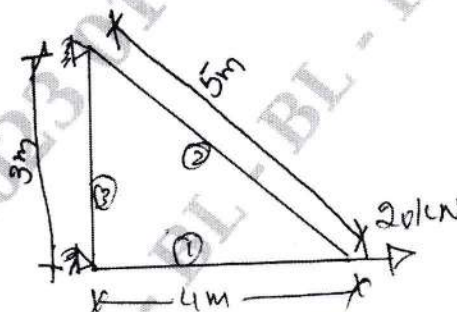

Fig.Q.10
- 10 Analyze the pin jointed frame shown in Fig.Q.10 by direct stiffness method.